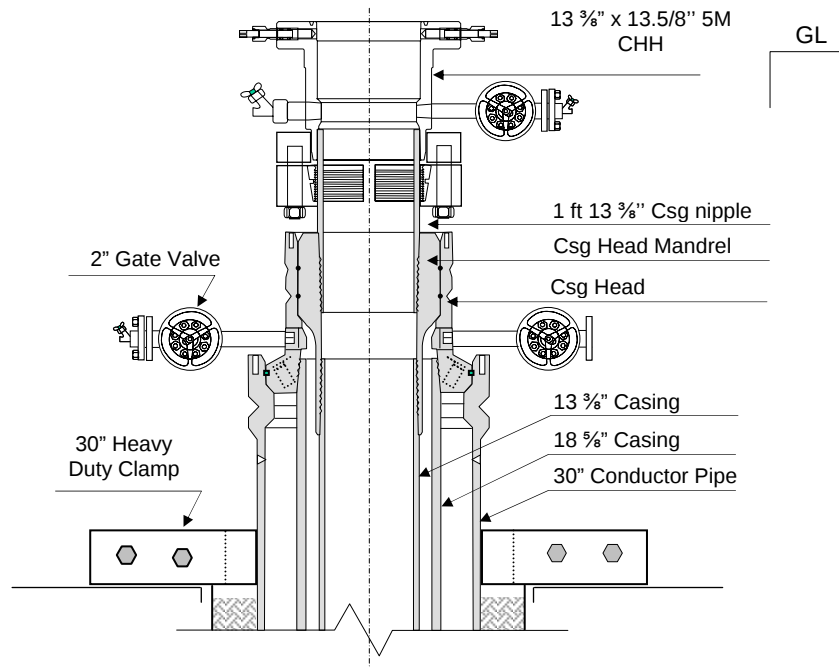

Figure 2-31: 13 5/8" Slip on Lock CHH after landing 13 5/8" casing
- Lower the Casing Head Housing until it lands on top of the 13 $\frac{3}{8}$ " pup joint stub (position the outlets in the correct orientation); weight maybe required to install the head over the casing stub. See Figure 2-31.